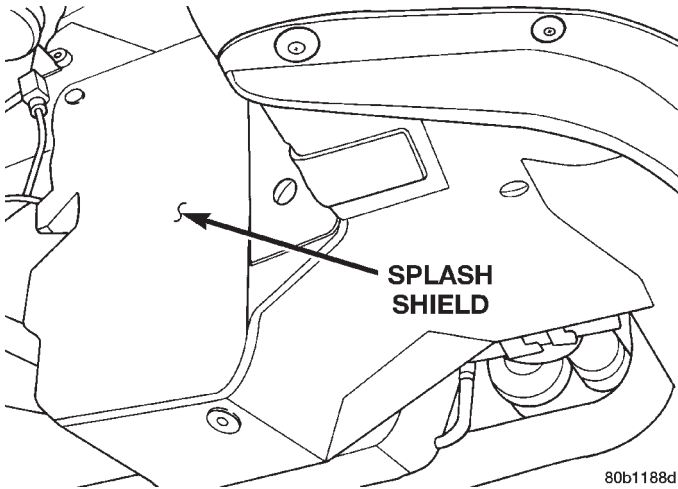

Fig. 23 Right Side Splash Shield
(5) Remove the splash shield (Fig. 23) from the right side of the engine compartment.
(12) Install exhaust system in vehicle using the reverse steps of its removal.
(13) Install right side engine compartment splash shield (Fig. 23) back on the vehicle.